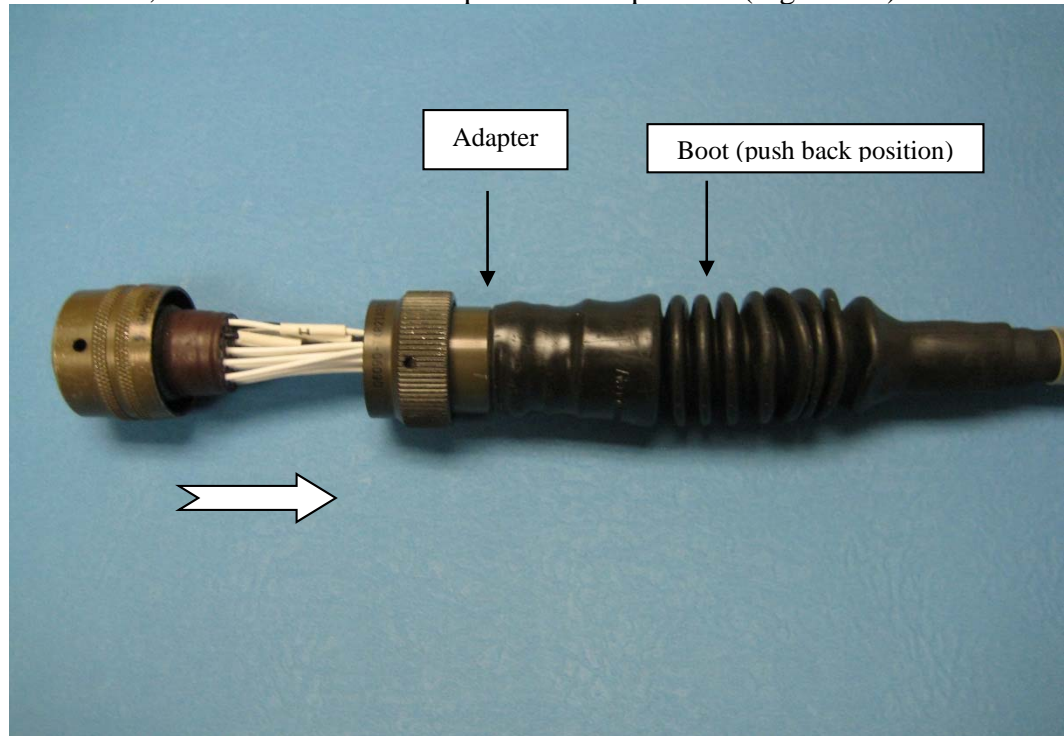

Figure 2-3
- When cool, the boot will remain in pushed back position (Figure 2-3).